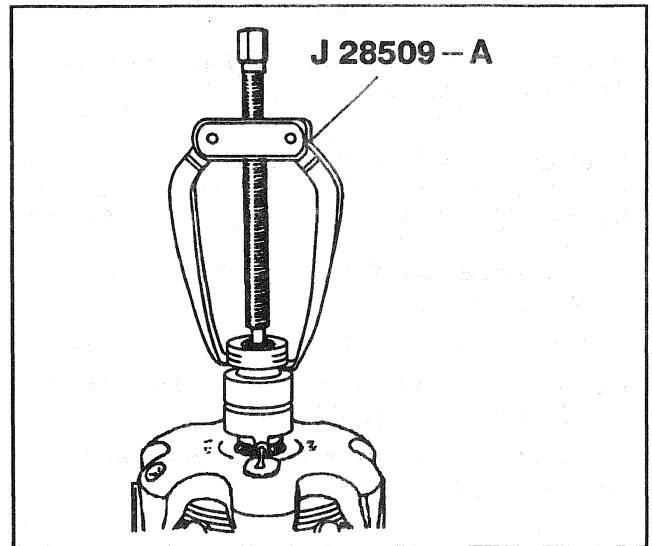

Figure 6—Removing the Slip Ring End Bearing
7. Slip ring end bearing (if equipped) from the rotor shaft using J 28509-A (Figure 6).